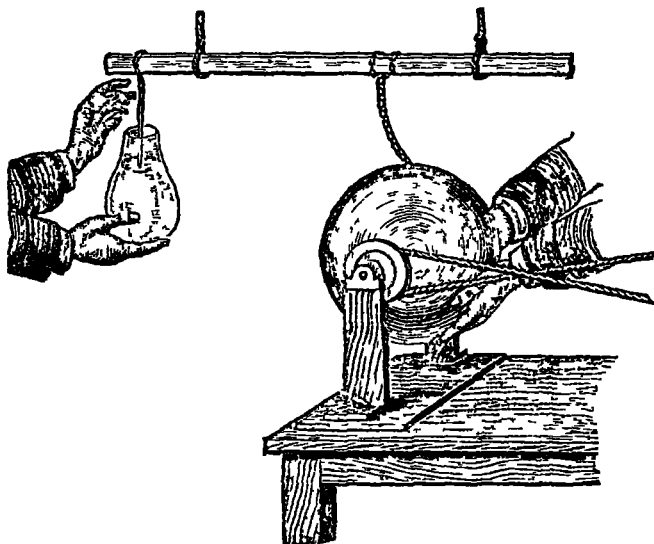

FIG 191
**Origin of the Leyden jar**—The following electric machine was in use in Leyden in 1745 a revolving sphere of sulphur rubbed against the dry hands of the experimenter (fig 191) the sphere was connected by a chain, with a conductor of brass suspended by dry silk cords. A pupil wishing to electrify water in a jar held the jar in his hand, and let a chain from the conductor dip into it after some time he touched the con-